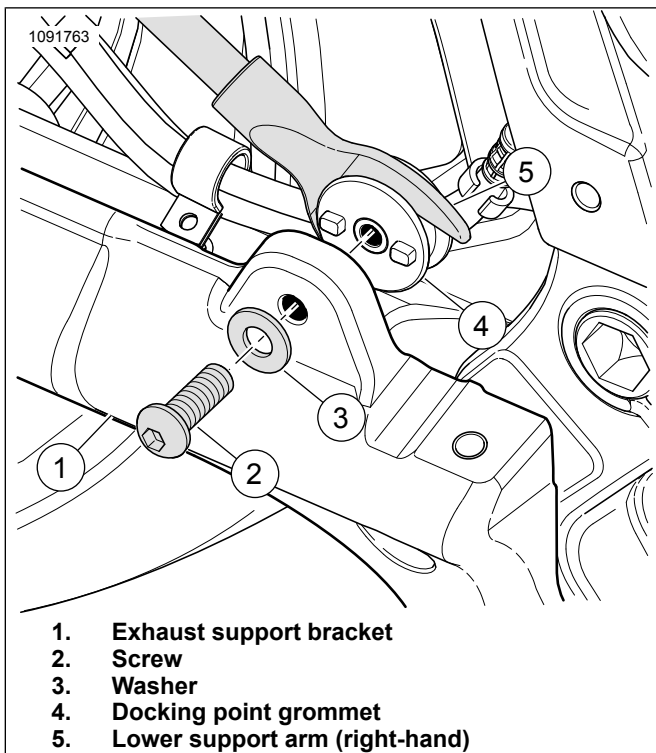

Figure 3. Docking Mount (right-side)
1. See Figure 3. Install right side docking point grommet.
- a. Mate the docking point grommet (4) nubs to the holes on exhaust support bracket (1).
- b. Install washer (3) on screw (2).